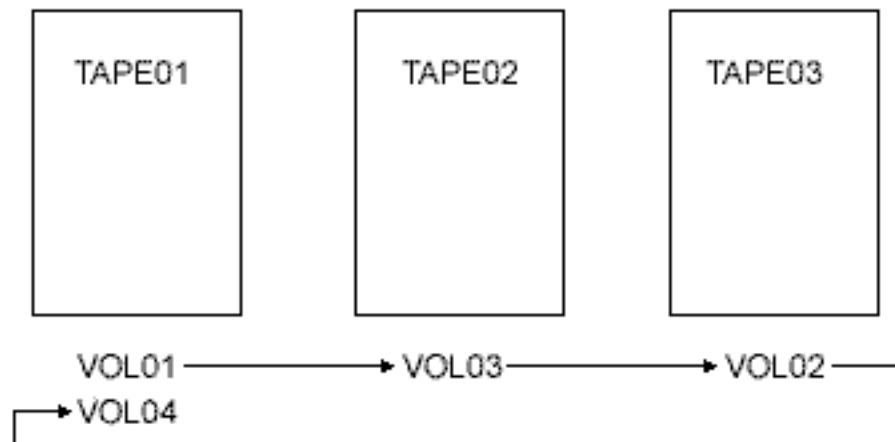

Figure 4. Multivolume-Tape-Data-File-Sequence Using Three Tape Devices
- If you specify more than one tape device, then place the volumes on the devices in the sequence that is specified in the tape device file. Refer to the following reference: Figure 4. For example: